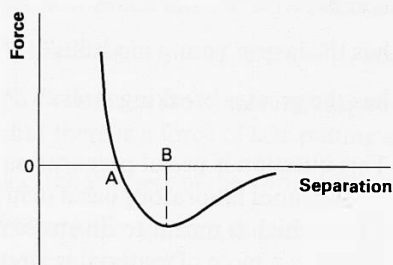
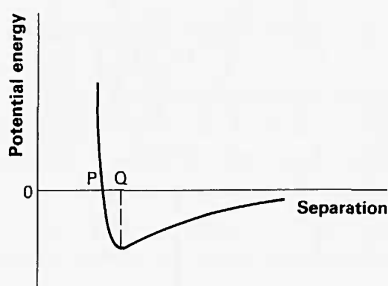

Figure A98
Figure A99
The force–separation graph for two molecules has the shape shown in figure A98.
- e** Suggest a suitable value for 0A in figure A98.
**27(P)** The potential energy–separation graph for two atoms is shown in figure A99.
- b** Using the same separation axis draw figure A99 and figure A98 on the same graph to indicate how the important features of each curve are related to each other.